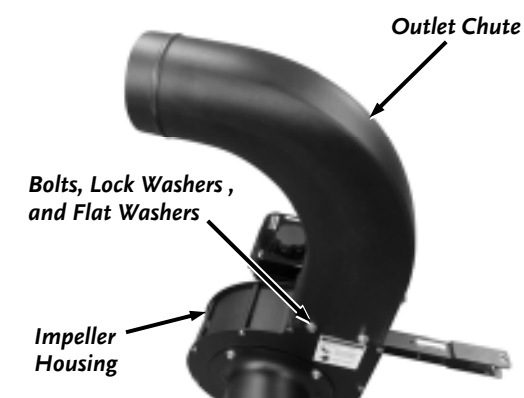

Figure 12
1. Place the Outlet Chute on top of the Impeller Housing (make sure to orient it as shown) and secure with four Bolts, Lock Washers, and Flat Washers using a 1/2" Wrench (**Figure 12**).